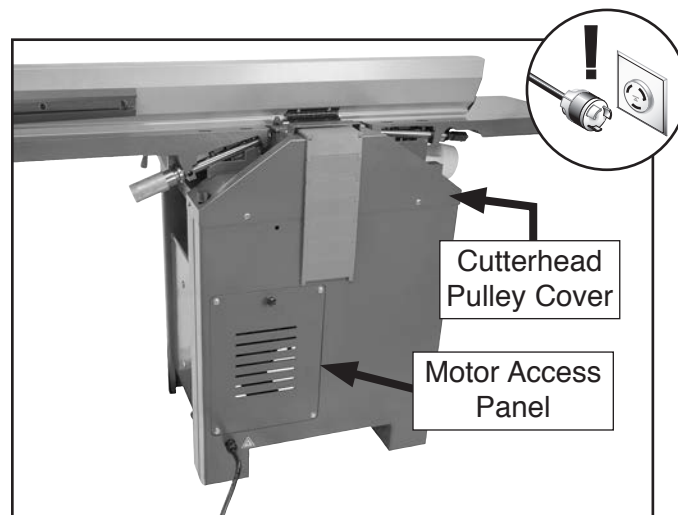

Figure 51. Location of cutterhead pulley cover and motor access panel.
2. Remove cutterhead pulley cover and motor access panel (see **Figure 51**).